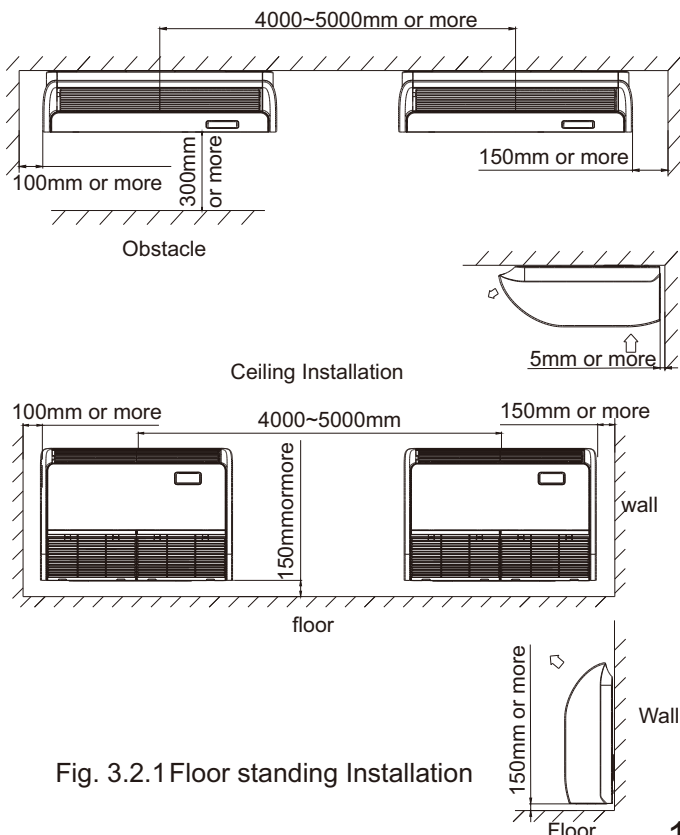

Fig. 3.2.1 Floor standing Installation
- Sufficient clearance for maintenance and servicing is ensured. (See Fig.3.2.1)